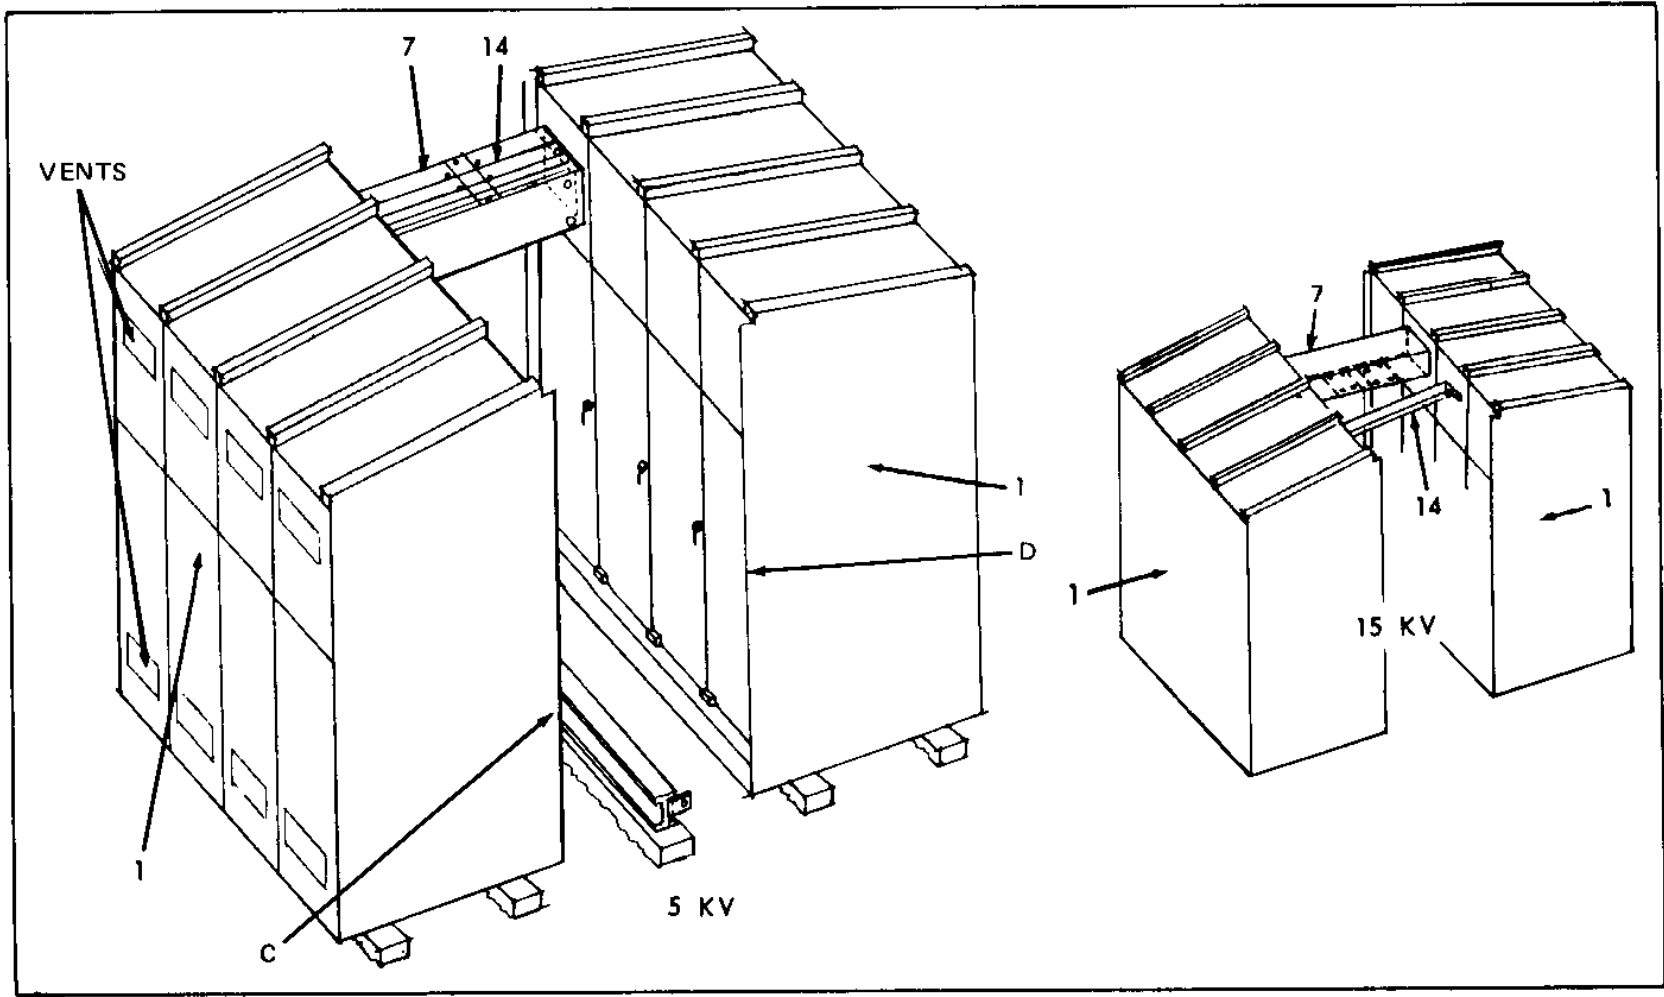

Figure 33. Bus Run Installation – Common Aisle Layout
4. Assemble and connect bus run (7). See Figure 33.